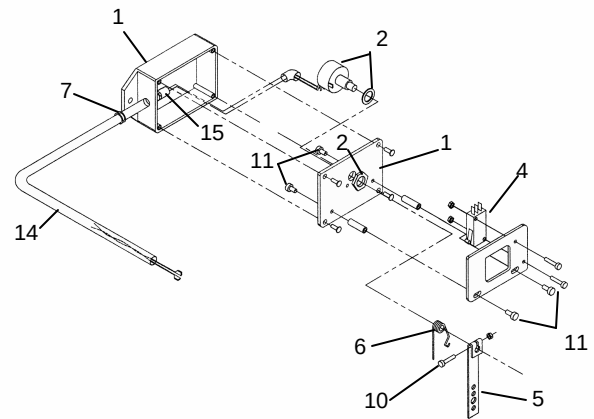

Figure 2 Speed Switch
Note: Refer to Figure 2.
1. Remove two screws (Figure 2, #11) holding micro switch plate to support spacers.
5. Remove nut holding pot switch into cover, and remove pot switch. See Figure 2 #2)
4. Install spacers (2) to outside of pot box cover.
6. Install return spring and speed switch lever to pot switch. See Figure 2. Do not torque clamp screw until adjustment has been completed.